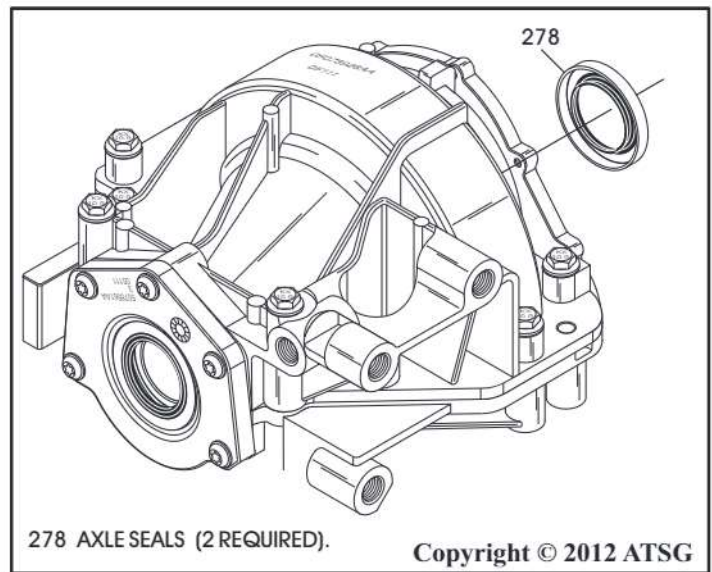

Figure 105
36. Install new left hand axle seal using the proper driver, as shown in Figure 105.